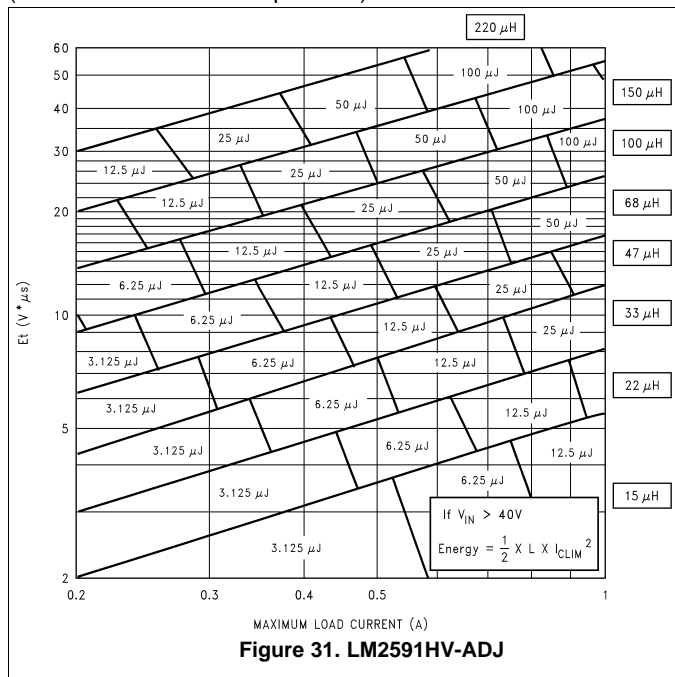

Figure 31. LM2591HV-ADJ
See Application Note AN-1197 (SNVA038) for detailed information on selecting inductors for buck converters. For a quick-start, the designer may refer to the nomographs provided in Figure 29 to Figure 31. To give designers more options of available inductors, the nomographs provide the required inductance and also the energy in the core expressed in microjoules (μJ), as an alternative to just prescribing custom parts. The following points must be highlighted:
5. Figure 31 shows the inductor selection curves for the Adjustable version. The y-axis is 'Et', in $V\mu\text{secs}$. It is the applied volts across the inductor during the ON time of the switch ($V_{IN} - V_{SAT} - V_{OUT}$) multiplied by the time for which the switch is on in μs . See Example 3.
1. Because input voltage is less than 40 V, a first pass inductor selection is based upon inductance and rated maximum load current. We choose an inductor with the inductance value indicated by the nomograph Figure 31 and a current rating equal to the maximum load. First, calculate Et for the given application. The duty cycle is calculated with Equation 5:
- Confirm that the inductor is rated to handle 100 μJ (see Figure 31) by the procedure shown in AN-1197 (SNVA038) and that the losses are acceptable. (If the DC input voltage is greater than 40 V, consider e_{CLIM} as shown in Example 2).